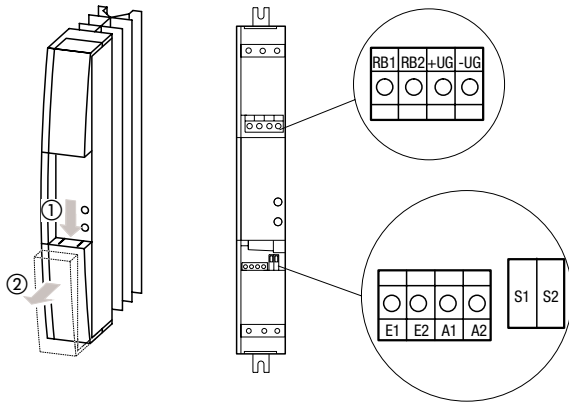

Figure 15: Removing the cover to access the terminals
- ▶ Remove the lower cover from the brake unit (see Figure 15 on page 32).